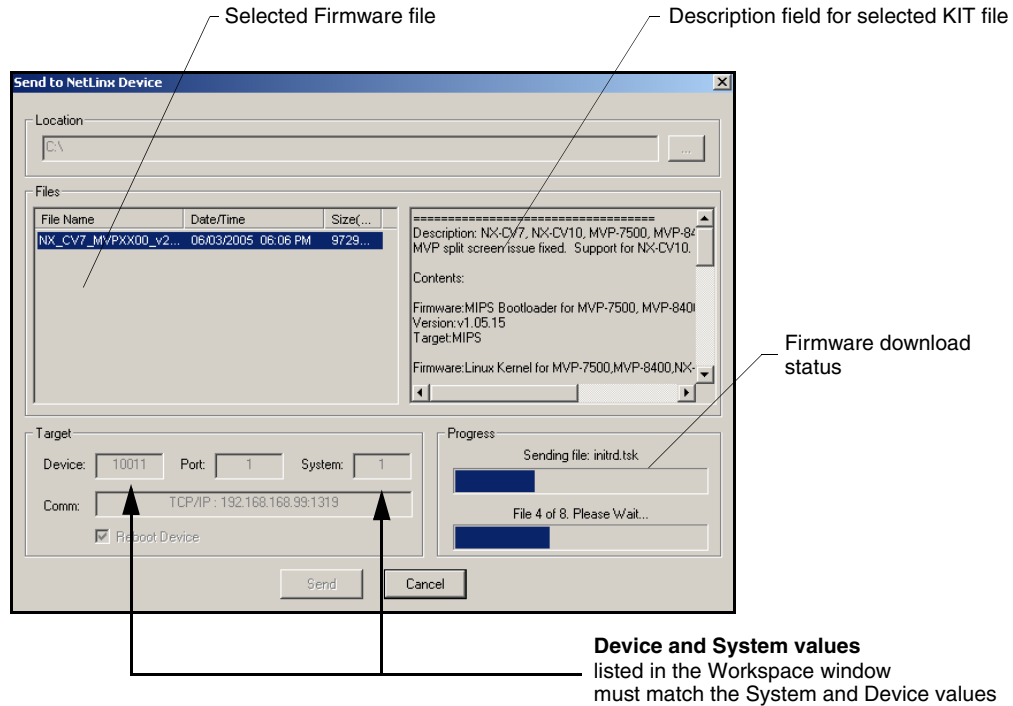

FIG. 75 Send to NetLinux Device dialog (showing Modero firmware update via IP)
7. Select **Tools** > **Firmware Transfers** > **Send to NetLinx Device** from the Main menu to open the Send to NetLinx Device dialog (FIG. 75). Verify the panel's System and Device number values match those values listed within the System folder in the **OnLine Tree** tab of the Workspace window.
8. Select the panel's KIT file from the **Files** section (FIG. 75).
11. Click **Send** to begin the transfer. The file transfer progress is indicated on the bottom-right of the dialog (FIG. 75).